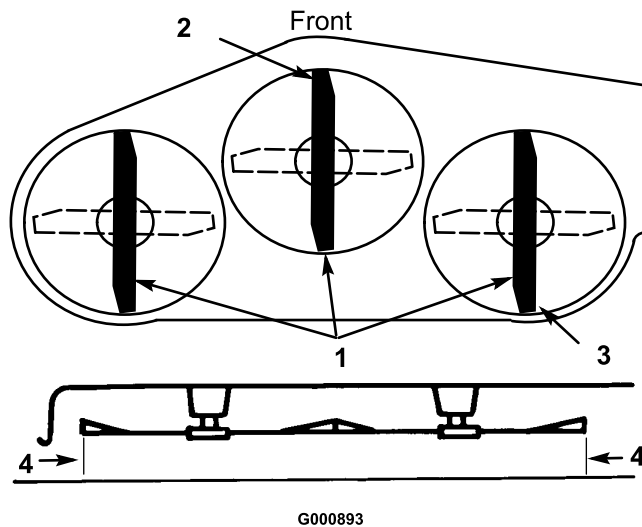

Figure 45
- Set the height-of-cut at 3 inch (76 mm) and carefully rotate the blades so they are facing front to rear (Figure 45).
- Measure between the tip of the front blade (Figure 45) and the tip of the rear blade to the flat surface. If the front blade tip is not 1/16-5/16 inch (1.6-7.9 mm) lower than the rear blade tip, adjust the front trunnion rods.
- After adjusting both trunnion rod yokes evenly, secure the yokes with the hairpin coppers. Check the front-to-rear level again. Continue adjusting the yokes until the front blade tip is 1/16-5/16 inch (1.6-7.9 mm) lower than the rear blade tip (Figure 45).